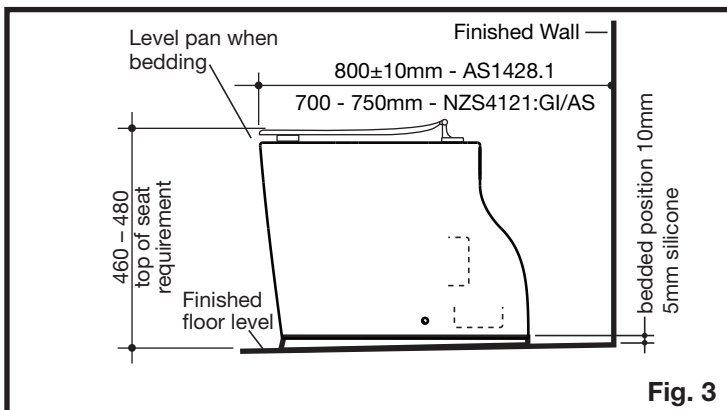
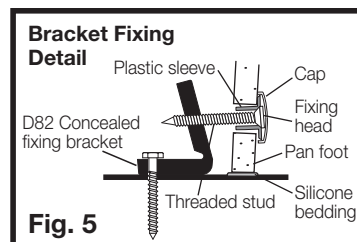

Fig. 3
Fig. 5
- 5- Position pan and connect with pan connector then level pan into bedding mixture, so that the back of the foot of the pan is approximately 10mm above the finished floor as detailed in Fig. 3. It is recommended that wedges are used to support the foot of the pan during the positioning.
- 7- Connect pan to connector and locate plastic fixing sleeve into holes in the pan. Fit screw into the bracket and tighten to bed pan to floor while ensuring level, as detailed in Fig. 3. **IMPORTANT-DO NOT OVER TIGHTEN, AS THIS MAY CRACK THE PAN FOOT.** Snap on plastic cap, as detailed in Fig. 5.